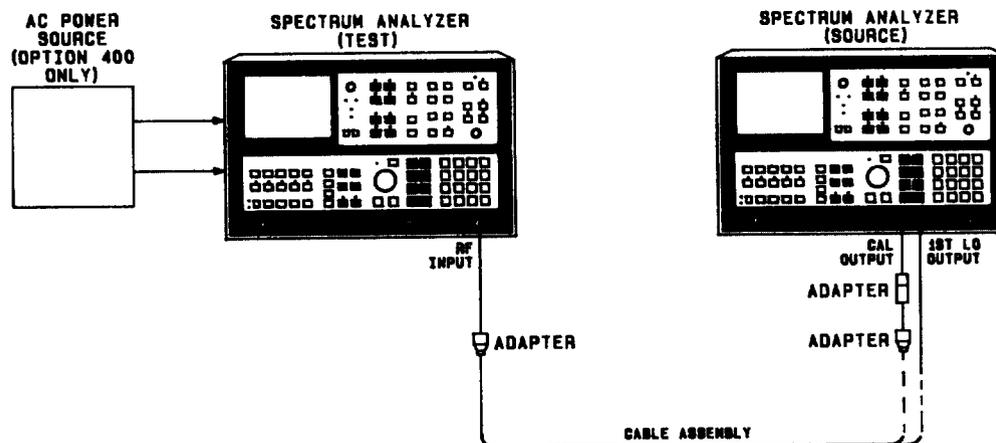

FIGURE 24. LINE-RELATED SIDEBANDS TEST SETUP
3. Connect CAL OUTPUT of source analyzer to RF INPUT of analyzer under test as shown in Figure 24.
11. Connect 1ST LO OUTPUT of source analyzer to RF INPUT of analyzer under test as shown in Figure 24.